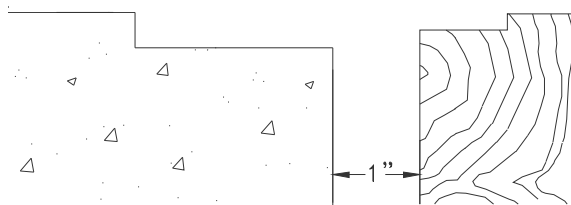

Figure 3
STEP 3. Rout the wooden floor along the edge of the joint to the depth and the width indicated on the shop drawings (see Figure 3). Clean away all debris from the joint area.